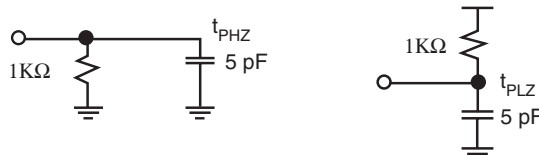

Figure 4: Loads used for t_{PXZ}
a. The following loads presented in **Figure 4** are used for t_{PXZ}: